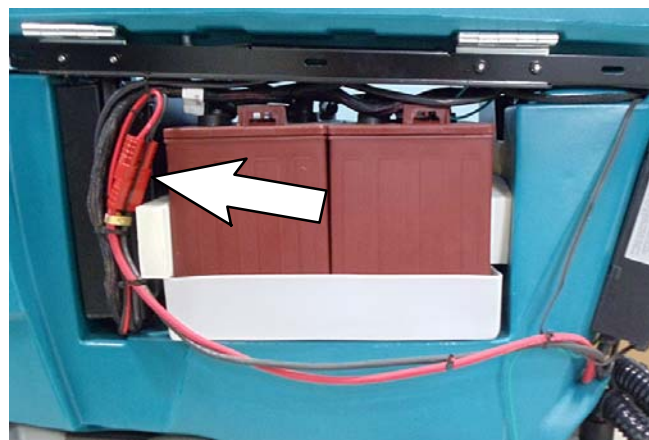

FIG. 12
1. Disconnect the red and black on-board charger cables from machine (FIG. 12). Do not replace the left-side panel at this time.